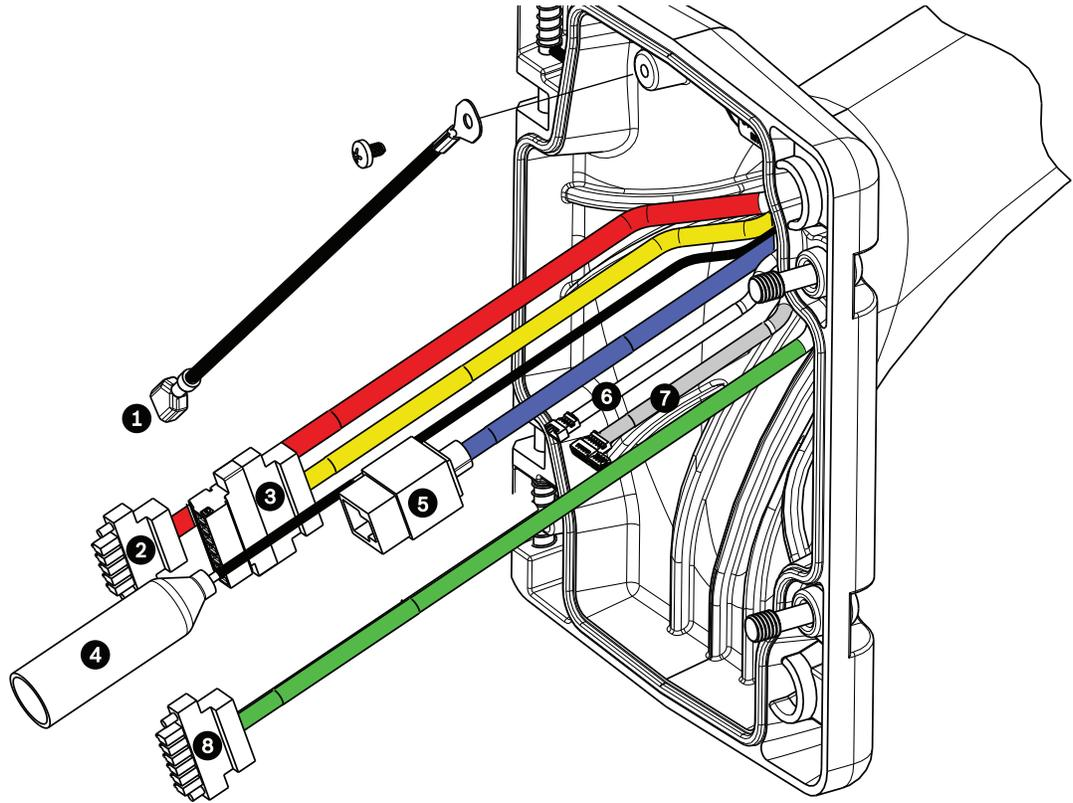

Figure 1.3 Pendant Arm Cables
- Attach the grounding spade terminal (item 1 in *Figure 1.3*) to one of the spade terminals inside the mounting plate.
- Attach the 5-pin Power In mating connector to the 24 VAC Power cable (item 2) connected to the pendant.
- Remove the mating connector from the Relay Contacts cable (item 3).
- Connect the incoming video coax cable to the BNC connector (item 4) and slide its plastic cover over the connector.
- If using UTP for video or Ethernet, connect the incoming RJ45 video connector, installed previously, to the UTP Video/Ethernet cable (item 5). See *The AutoDome Modular Camera System Installation Manual* for connections and specifications.
- Connect the outgoing alarm wires to the flying leads coming from the 4-pin Alarm Outputs cable (item 6).
11. Connect the incoming alarms wires to the flying leads coming from the 6-pin Alarm Inputs cable (item 7).